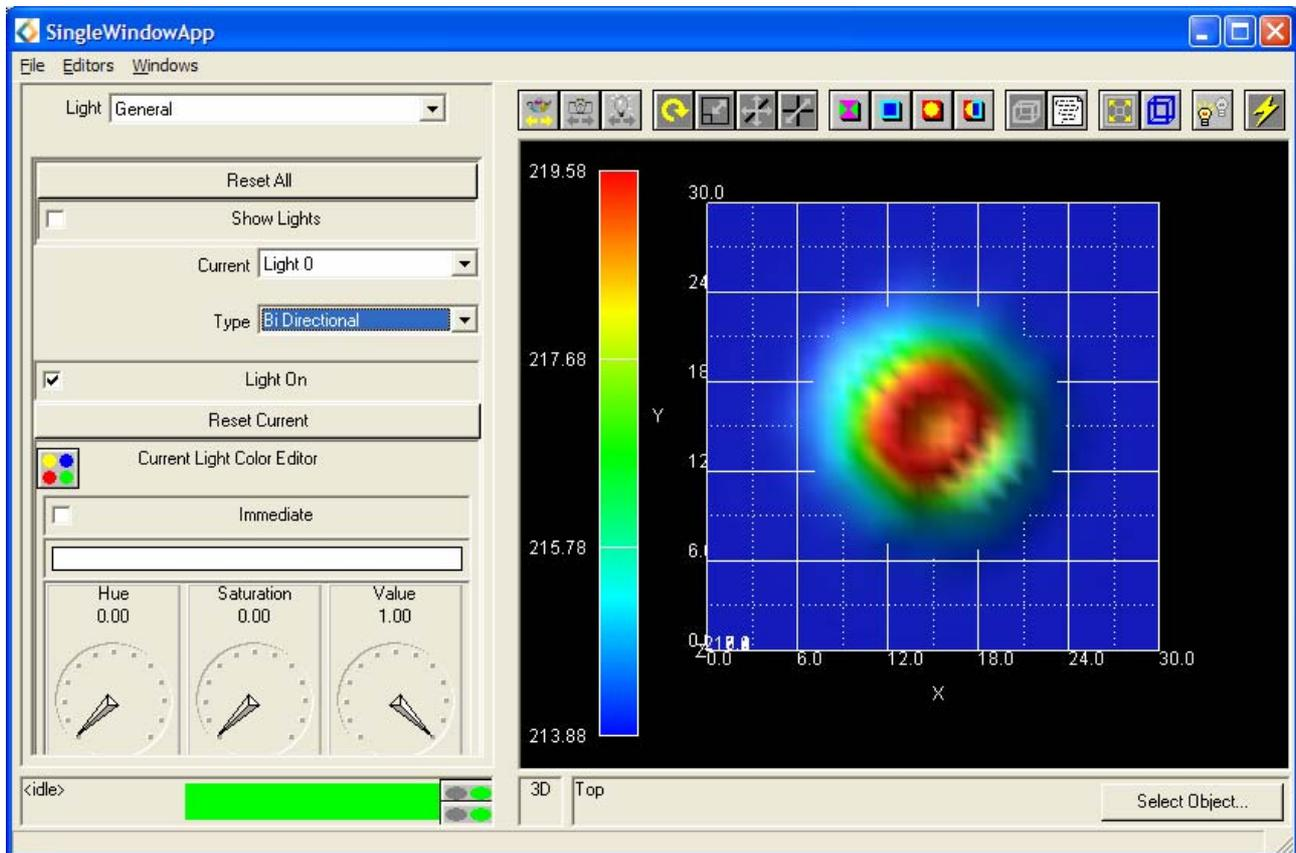

Figure 3.9: Light Editor and temps.fld Visualization
- If an image similar to the one shown in Figure 3.9 appears then the field file has been created successfully.